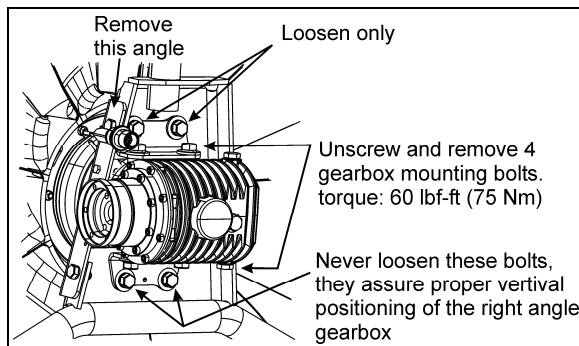

FIGURE 29: RIGHT ANGLE GEARBOX MOUNTING 05126
5. Dismount the angle (see fig. 29).